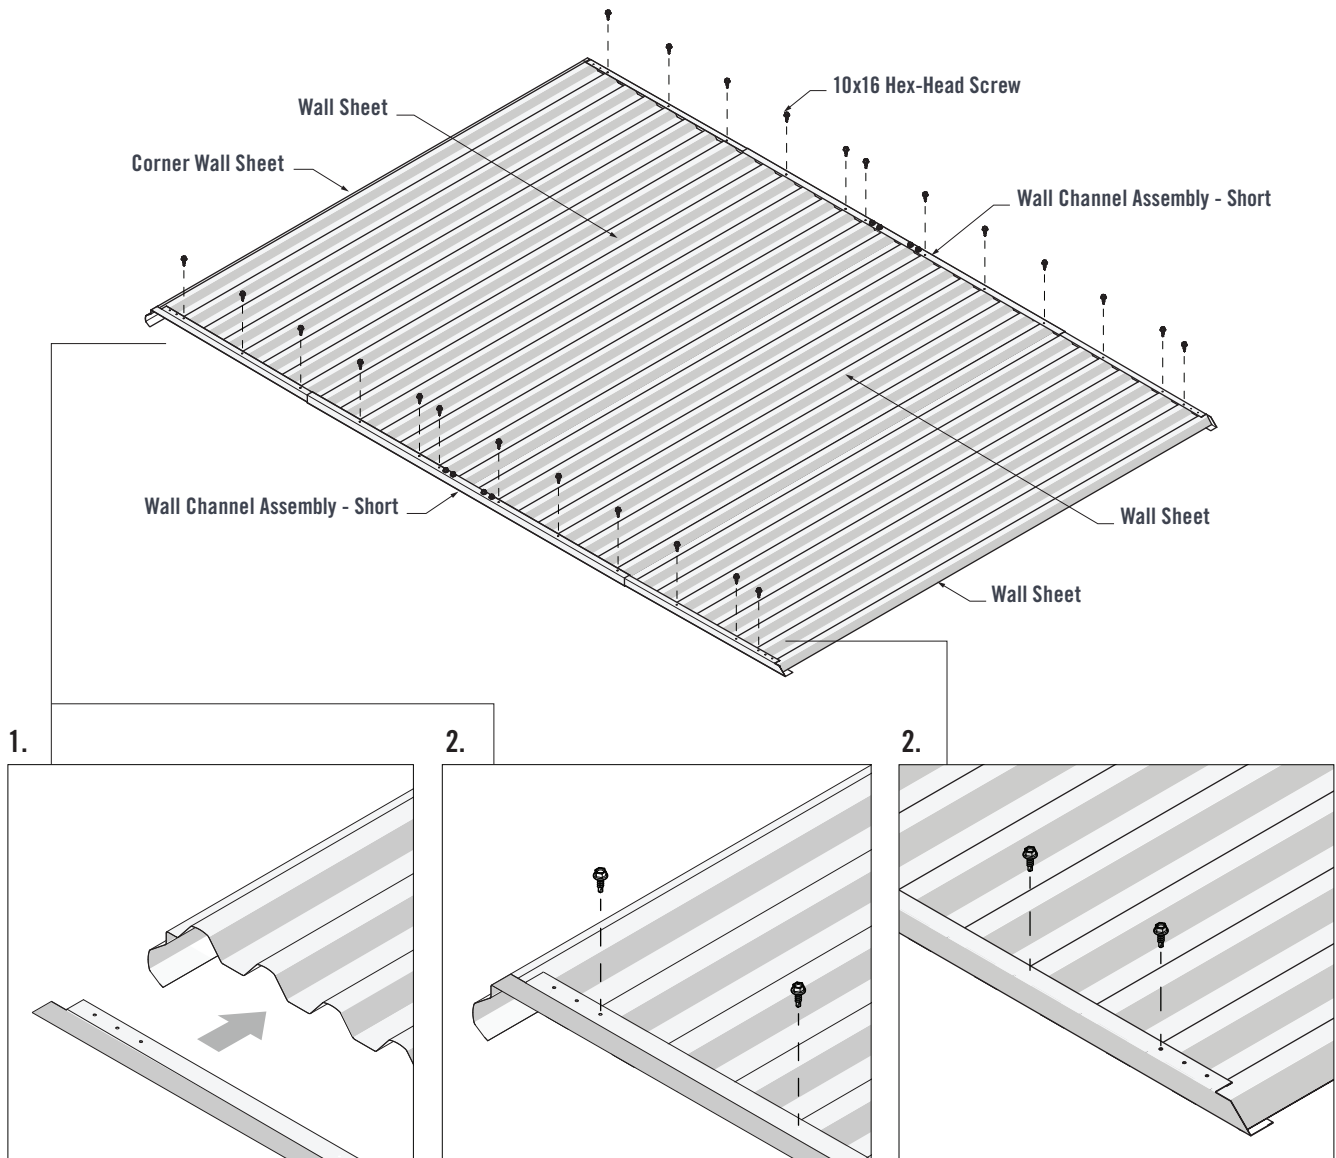

FIGURE 4.2
1. Fit the Wall Channel Assembly (Short) over the lapped Wall Sheets. The end of the Wall Channel should fit up against the end of the Corner Wall Sheet (Figure 4.2).
2. Wall Channels have three pilot holes in each end. Fasten through the third pilot hole of both Wall Channel ends and into the Wall Sheet crests. Fasten through the Wall Channel Assemblies and into every third Wall Sheet crest using ten 10x16 Hex-Head Screws in each Wall Channel Assembly (Figure 4.2).